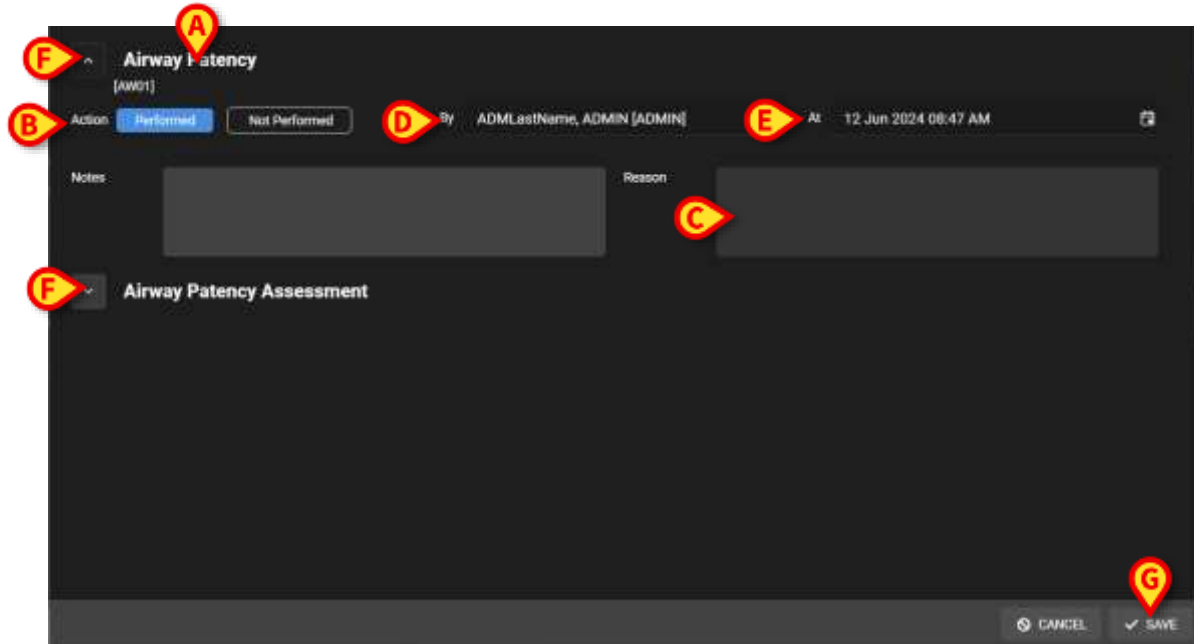
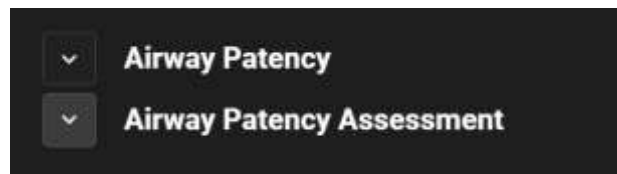

Fig 81
Fig 82
- the problem addressed by the activity (Fig 81 **A**).
- the indication of whether the action was performed or not (Fig 81 **B**). In case of activities scheduled at an exact time, this multiple choice includes the “In Time” and “Late” options (see Fig 67 for an instance). If an activity is documented as “Not Performed” or “Late”, the “Reason” field is enabled (Fig 81 **C**), requiring to indicate the reason why the activity was executed late or not executed. The “Not Performed” and “Late” activities are indicated as “Anomalies” in the dedicated window (paragraph 4).
- The name of the user documenting the activity (Fig 81 **D**).
- The execution date/time (Fig 81 **E**). Click the  icon placed alongside the date/time field to open a calendar tool allowing to change the date/time if the activity is documented at a time that is different from the time of actual execution. Only the allowed time span is enabled for selection on the calendar tool.
Use the  buttons to expand/collapse each section (Fig 81 **F** - in Fig 82 both sections are collapsed).
After clicking the **Save** button on the execution window (Fig 81 **G**), the calculation result is displayed on the “Active Plan” screen in the position corresponding to the execution time (Fig 86 **A**).